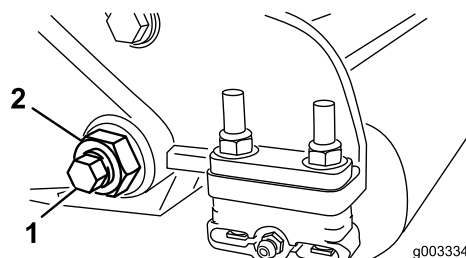

Figure 25
3. On each side of the machine, loosen the locknut securing the bedbar bolt (Figure 25).